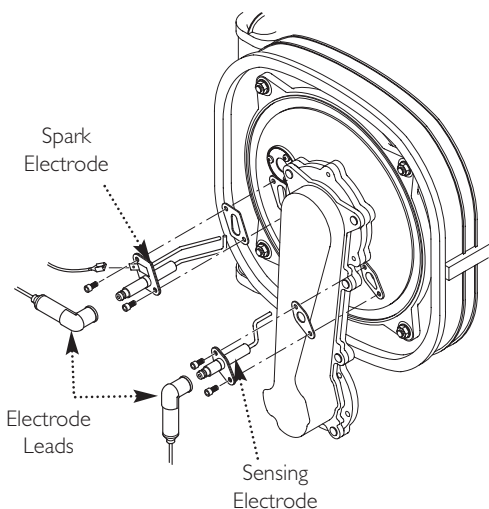

Fig. 66
14.2 Spark and Sensing Electrodes (Fig. 66)